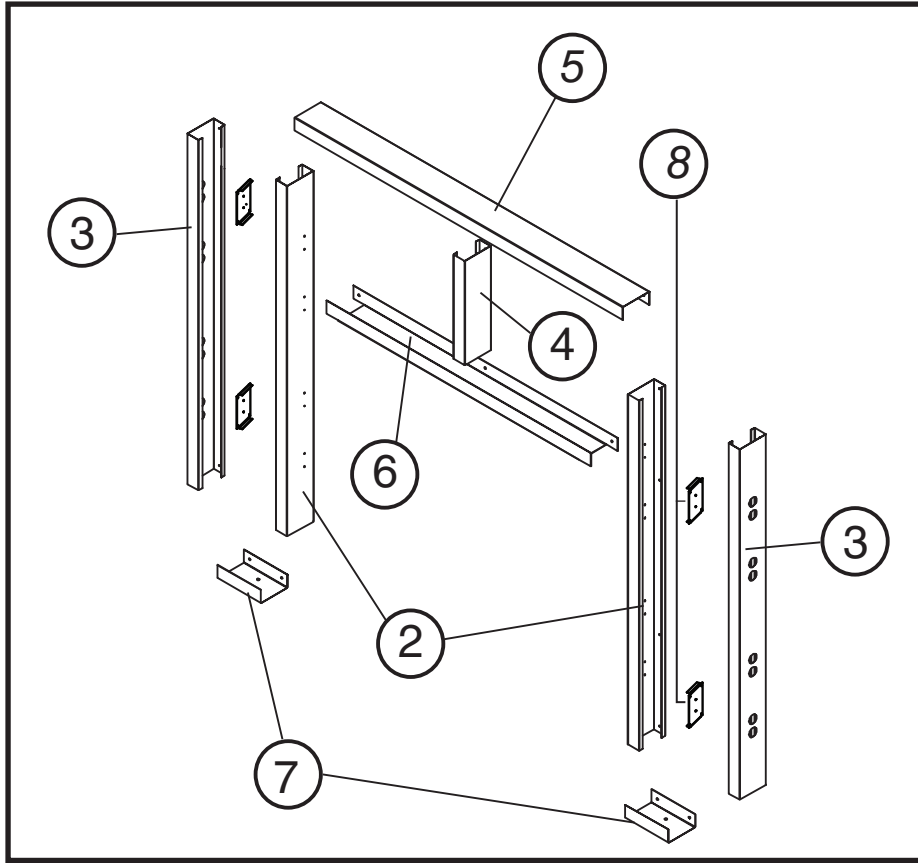
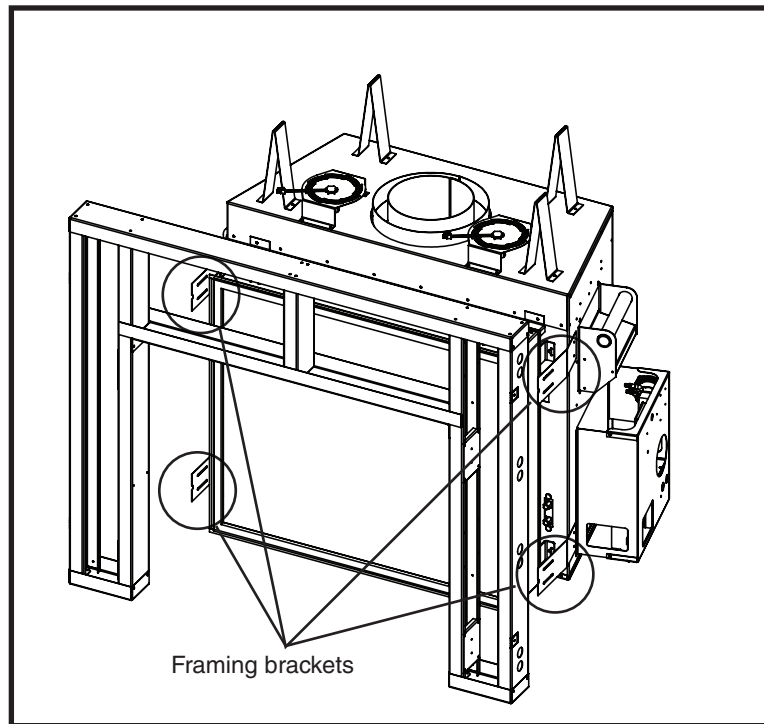
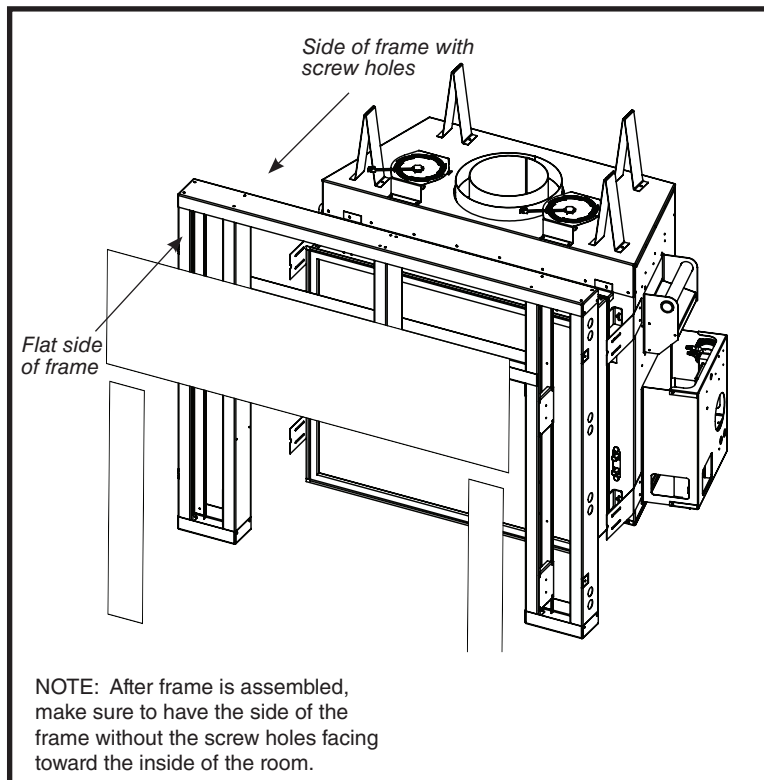

Figure 14: TC30 Framing kit parts.
Figure 15: TC30 Framing brackets.
Figure 16: Combustible boards.
1. Top Frame Assembly (Figure 14).
- Lay out side studs (2) and center stud (4) on a large flat surface.
- Using the screws provided (1), attach the header stud (5) and the plate stud (6) to the center stud (4).
2. Attach Side Studs (Figure 14).
- Fasten the Inner side studs (2) to the header (5) and plate (6) studs.
- Attach the outer side studs (3) to the top of the header stud (5)
- Fasten the outer side studs (3) at the bottom using the base plates (7).
- Align and secure the framing plates (8) to the frame so that they are in line with the framing brackets on the fireplace unit (Figure 15). Align the assembled frame to the unit framing brackets (Figure 15). Attach at the fastening points through the access holes in the outer side studs (3).
- Secure the frame assembly to existing framing through the stud header (5) and the stud plates (7).
- Use drywall screws to install the non-combustible board top and sides (Figure 16).